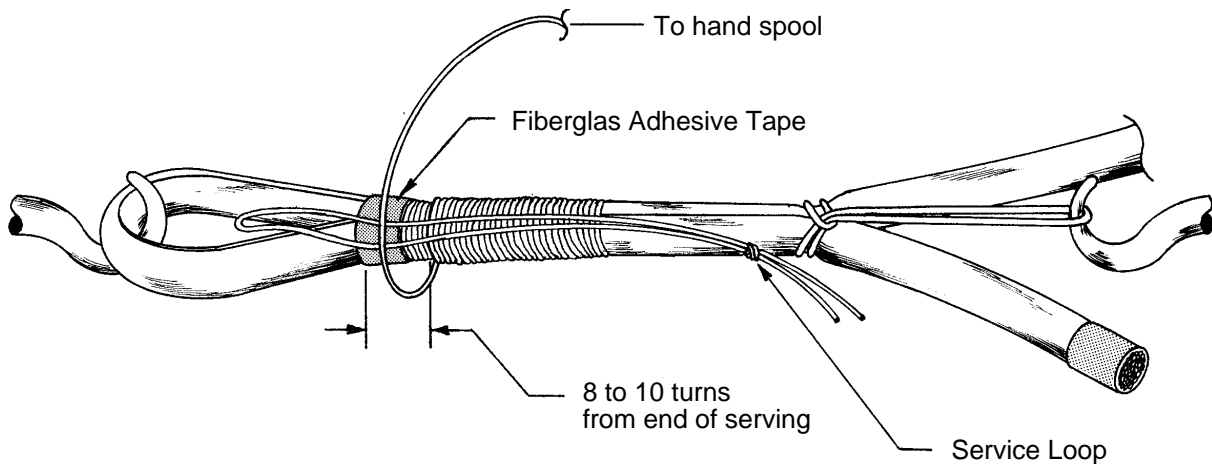
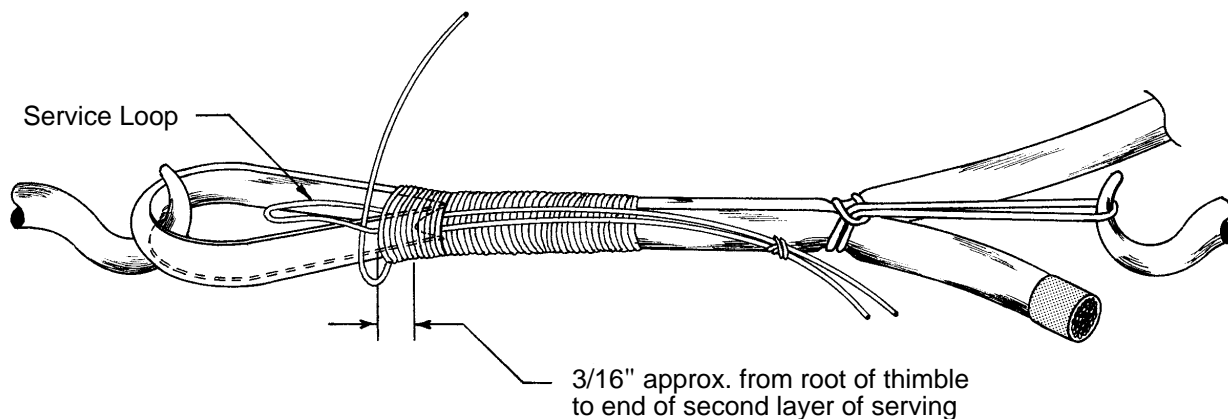

**Figure 5 - Starting Serving on Loop with Thimble**
**Figure 6 - Starting Serving on Loop with Bushing**
- On terminals fitted with thimbles, position the clove hitch in line with the root of the thimble as shown in Figure 5.
- On terminals fitted with circular bushings, tie the clove hitch at the point where the two strands will touch when pulled together, as shown in Figure 6.
- Step 5. Cut the free end of the serving cord leaving approximately 1" and place it along the elastic cord. With the other end of the serving cord, tie a half hitch around both strands of the elastic cord as shown in Figure 5, and draw the two strands together, as shown in Figure 6. If a thimble is used, the half hitch and first few wrappings must pass under the upturned points of the thimble.